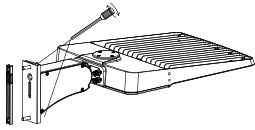

Figure 2-1
2.DIRECT MOUNTING (DM)
Step1: Loosen the screws on the bracket with a screwdriver and take off the bracket, Figure 2-1;